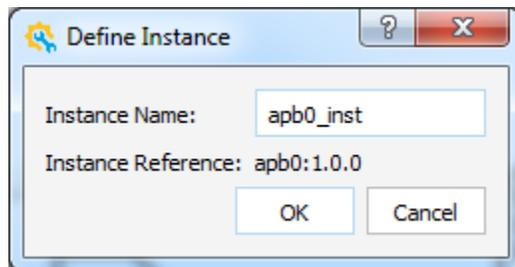

Figure 2.25. Define Instance Dialog Box
- b. Right-click on the component and choose **Instantiate**. The Define Instance dialog box (Figure 2.25) open.